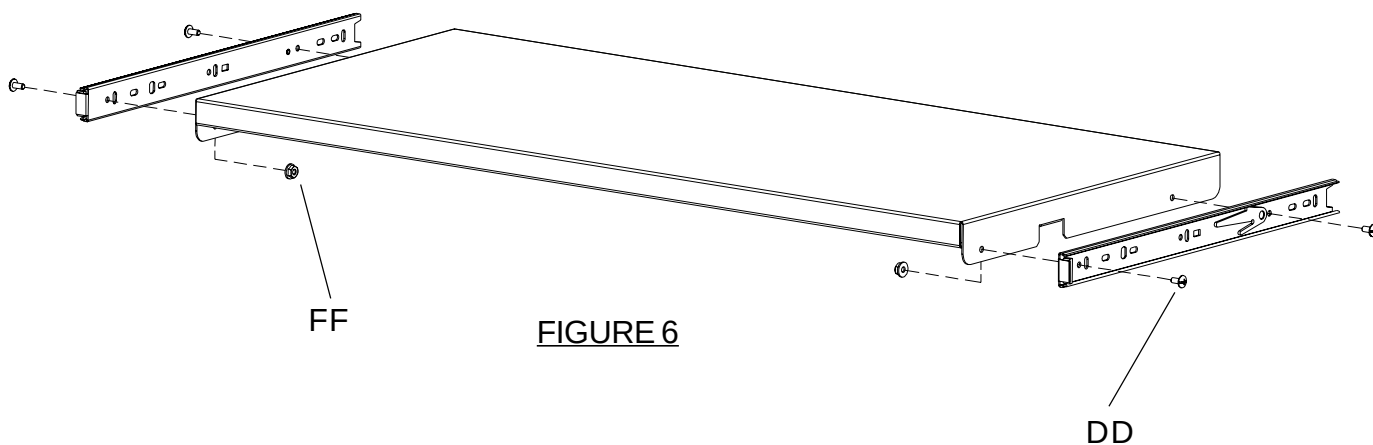
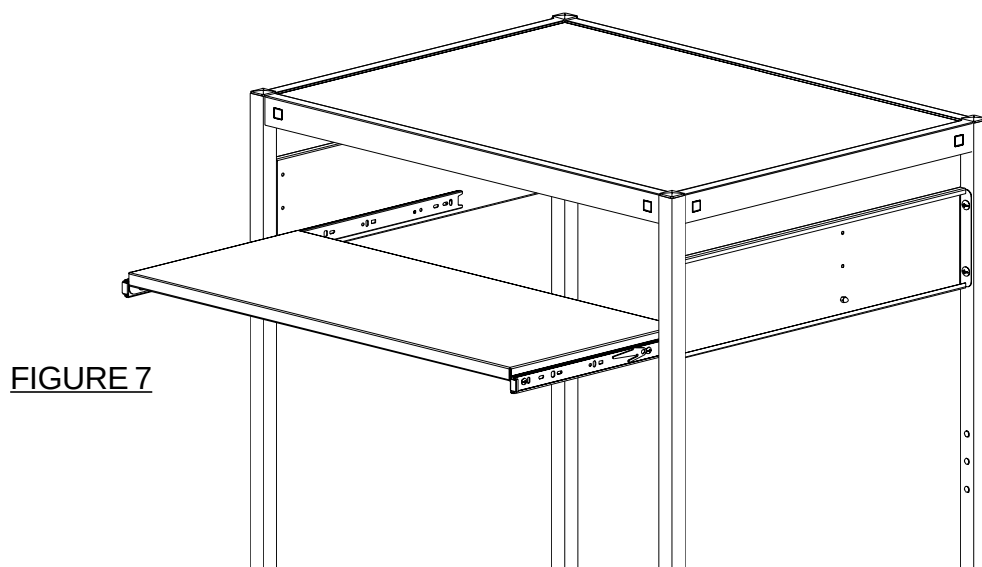

FIGURE 6
FIGURE 7
Attach the remaining slide pieces to the pull out shelves with screws (DD) and nuts (FF) as shown in **FIGURE 6**. Then slide each shelf into the cart as shown in **FIGURE 7**.